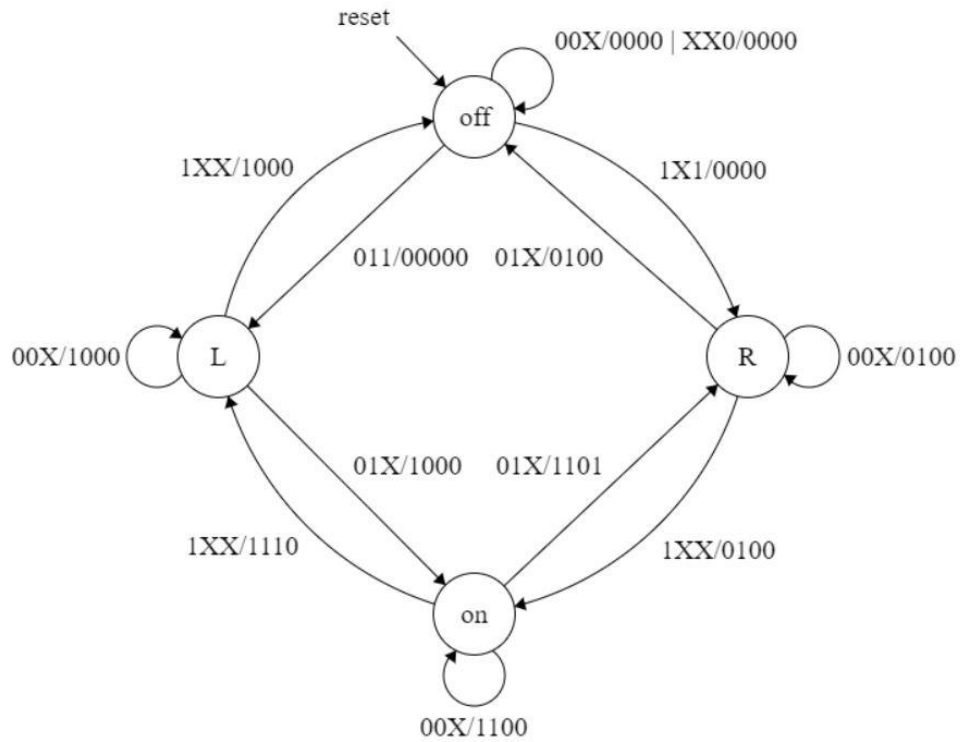

Figure 3 - paddleComp FSM state diagram
There are four outputs: two outputs controlling the two LEDs and two output for enabling the other modules. The state diagram and state table for paddleComp are show in Figure 3 and Table 3 respectively to further demonstrate this. For the State diagram inputs and output are as follows (L)(R)(En) / (LED[1])(LED[0])(EnL)(EnR)